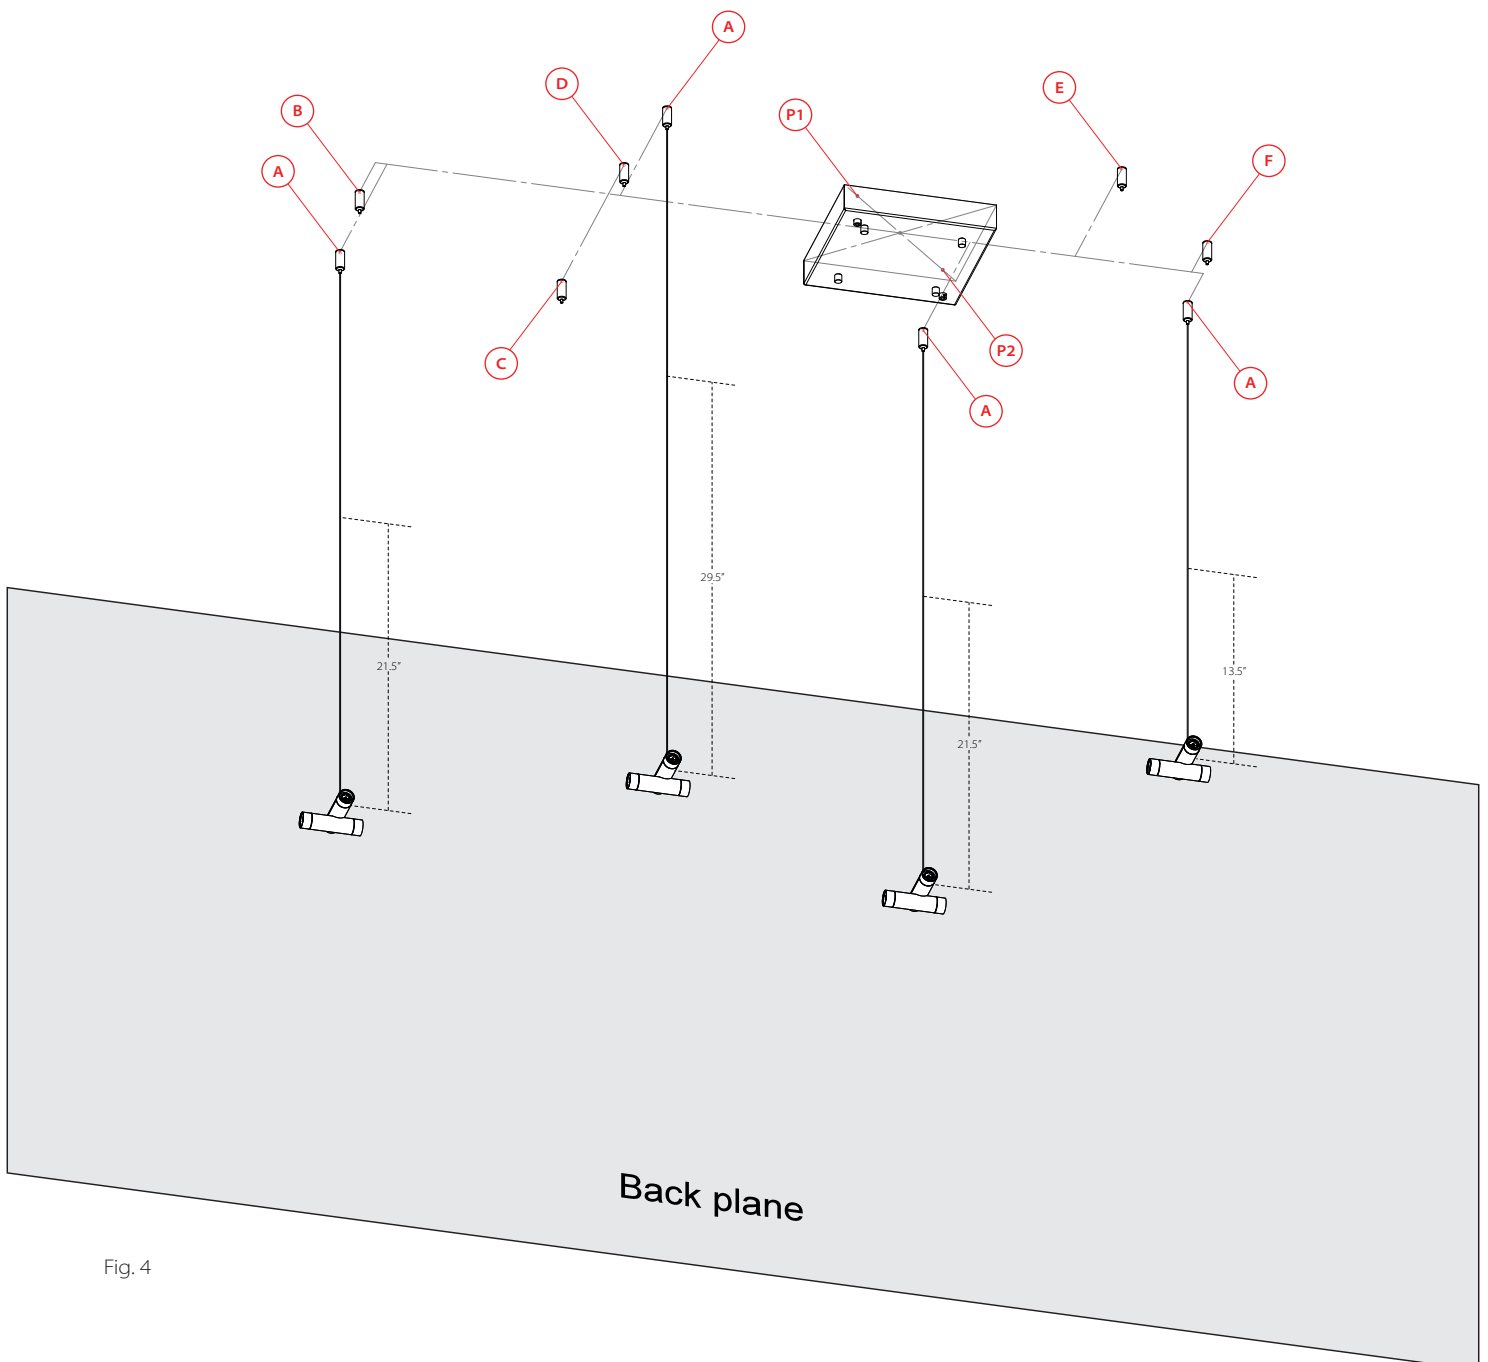

Fig. 4
Install the Hanging Connectors to their respective locations shown in Fig. 4. Pay attention to the orientation of the connectors relative to the Back plane.
5. Twist together the outer braided conductor to form the negative wire of the fixture, then strip 5/8" off the end of the inner stranded conductor to form the positive wire of the fixture (Fig. 4).